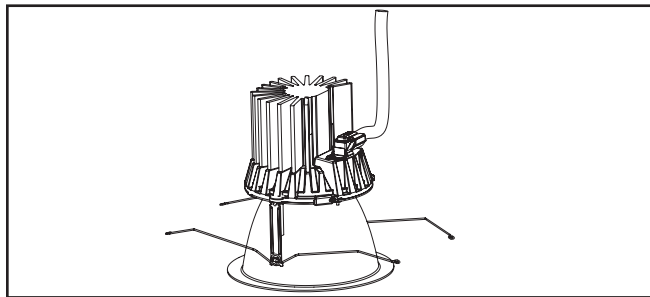

Figure 8
7. Ensure the connector is properly engaged. (Figure 8.).